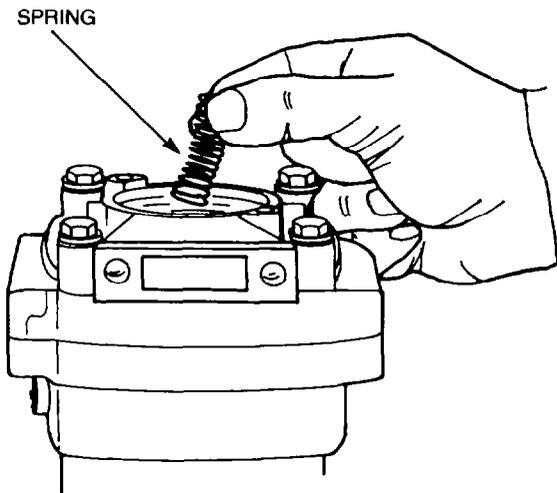

Figure 231 — Unloader Valve Spring — Removal
- g. Remove the unloader valve spring from the intake valve seat (see Fig. 231).